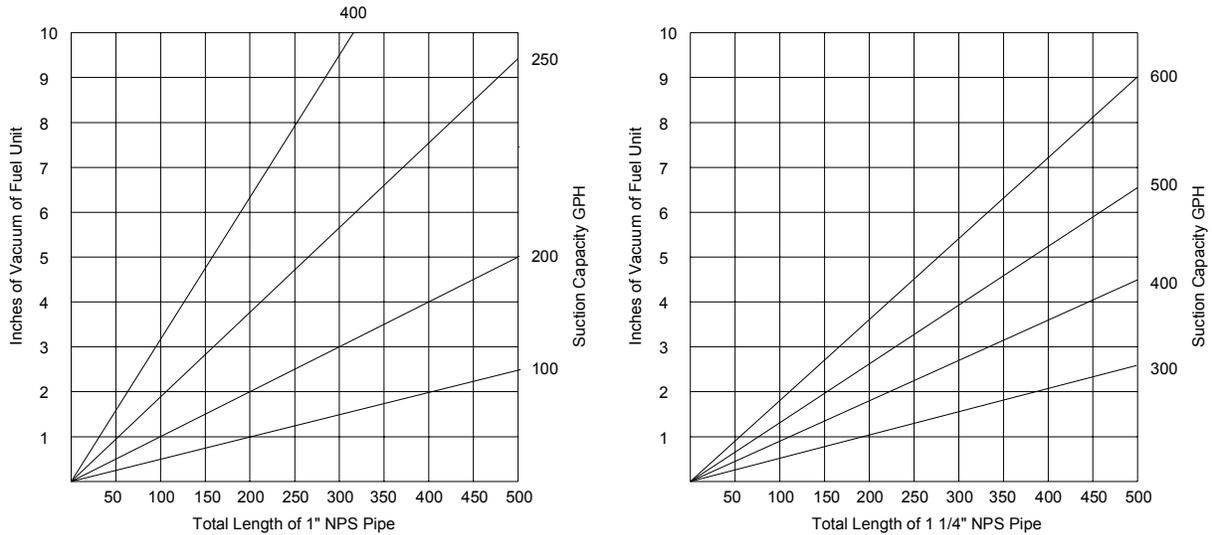
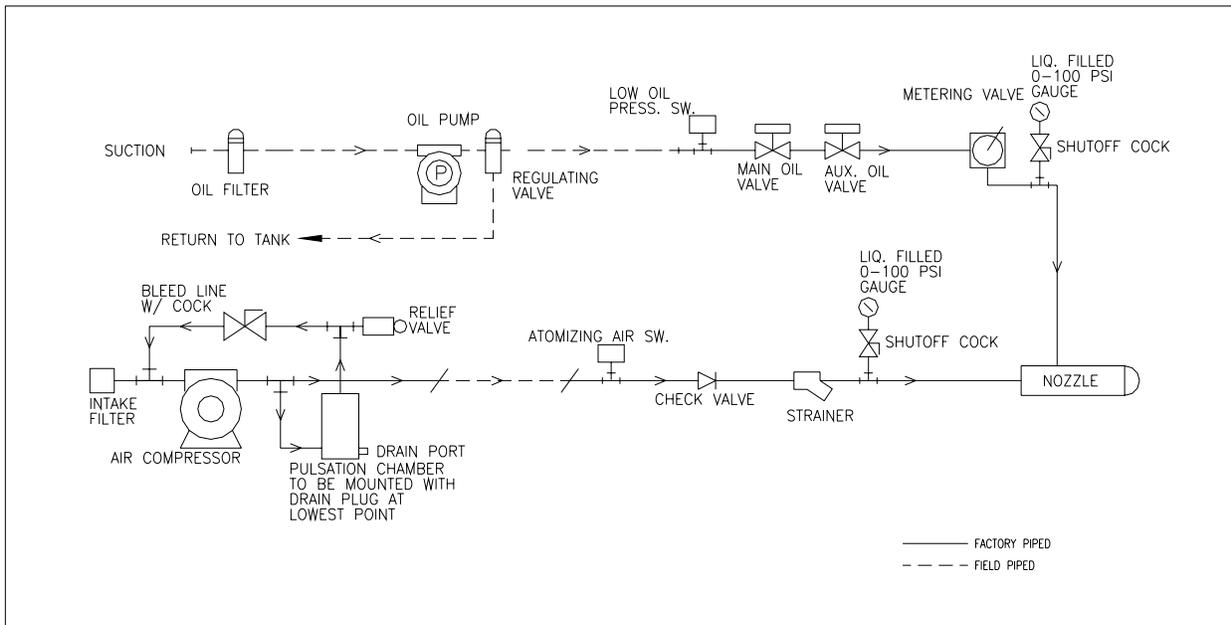

Figure 4: Oil Line Sizing
Figure 5: Oil Piping Details
- 2.2.9 Refer to Figure 5 for fuel pump oil piping connection information. Further information relating to burner oil piping can be found in Table 3, Figure 4 and Figure 5.
- 2.2.10 It is very important to properly size the oil suction line and oil filter, to provide fuel flow to the burner without exceeding 10" suction pressure (vacuum) at the oil pump suction port. The method to properly size fuel pump supply line is outlined below (Figure 4).
- 1) Check oil pump GPH Suction Capacity shown in Figure 4, Oil Line Sizing.
- 6) Add the vacuum determined from items 4 and 5 together to determine total inches of vacuum.
- 10) A Rule of Thumb to determine total vacuum for suction line sizing is to add 10% to vacuum determined from Figure 4 calculations.